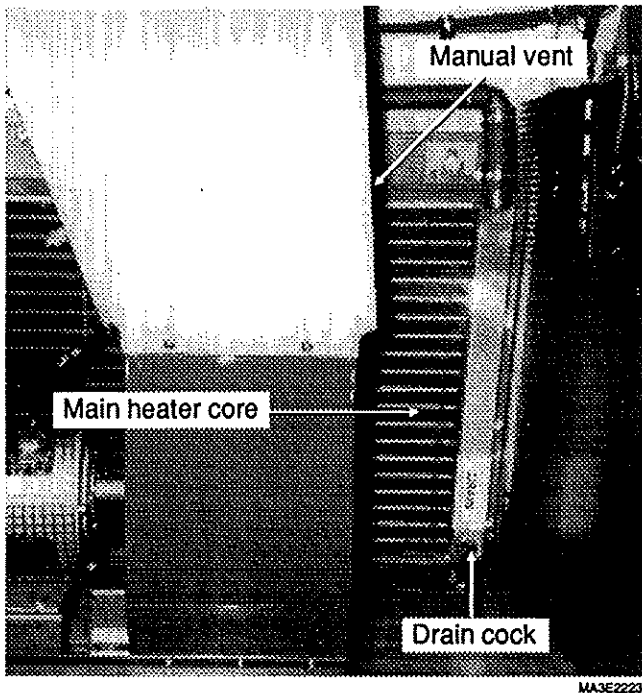

FIG. 23
4. Open drain cock in bottom of heater core, then open manual vent located on top of heater core (see fig. 23) in order to allow air to enter while draining.